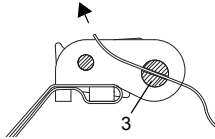

Fig. 7.31: Ratchet Clasp with tension strap
- Insert the long end of the tension strap in part (3) of the ratchet clasp (see Fig. 7.31).